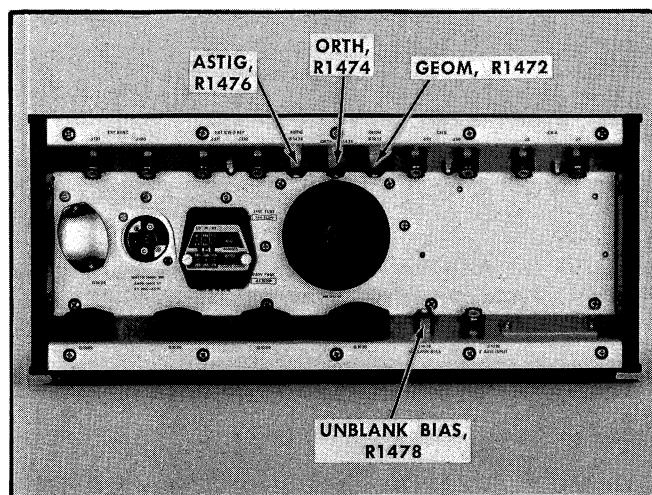

Fig. 5-1. Rear-panel control locations.
a. Adjust the front-panel FOCUS control and the rear-panel ASTIG control (see Fig. 5-1) to obtain a well-defined display.
c. ADJUST—GEOM control, R1472, (see Fig. 5-1) for minimum bowing of the vertical or horizontal lines.
e. ADJUST—ASTIG control, R1476, see Fig. 5-1 until a nearly perfect round spot near the center of the graticule is obtained.
f. ADJUST—ORTH control, R1474, (see Fig. 5-1) until trace is perpendicular to the 90°-270° axis of the vector graticule.
d. ADJUST—UNBLANK BIAS control, R1478, (see Fig. 5-1) for a uniform intensity throughout the circumference of the test circle.